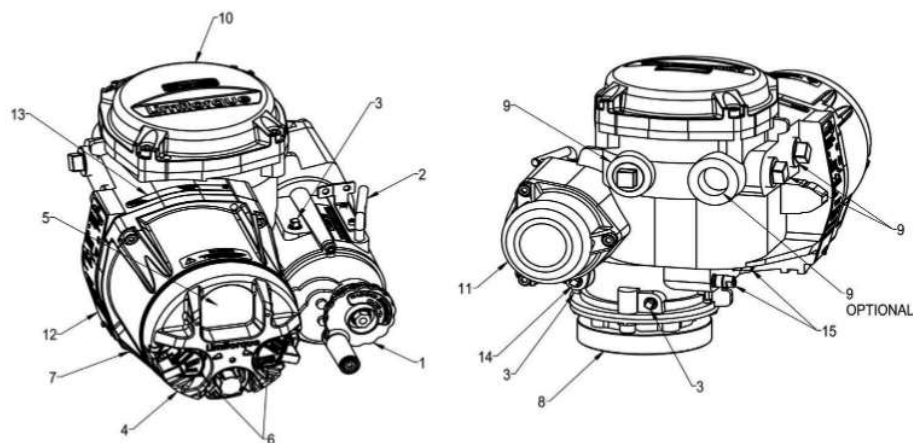

Figure 1.1: QX actuator
- To install and commission the actuator, only the terminal compartment cover needs to be removed. See Figure 1.1, item 10. Settings for commissioning the actuator are done externally; therefore, no other covers need to be removed. The actuator was assembled in ideal dry conditions and the total sealing of the enclosure protects all electrical components against deterioration.